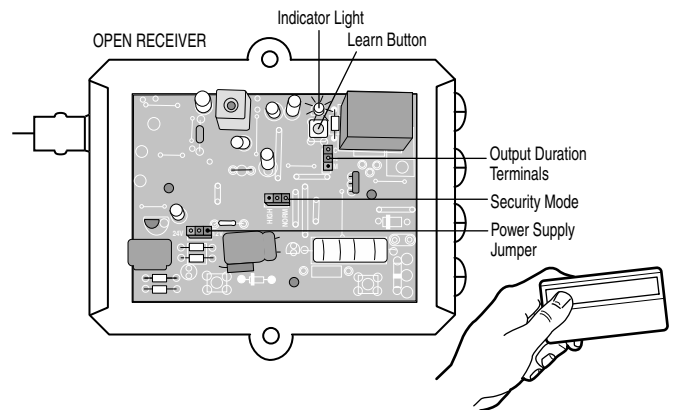

FIGURE 7
2. Press and release the "learn" button on the receiver. The learn indicator light will glow steadily for 30 seconds (Figure 7).